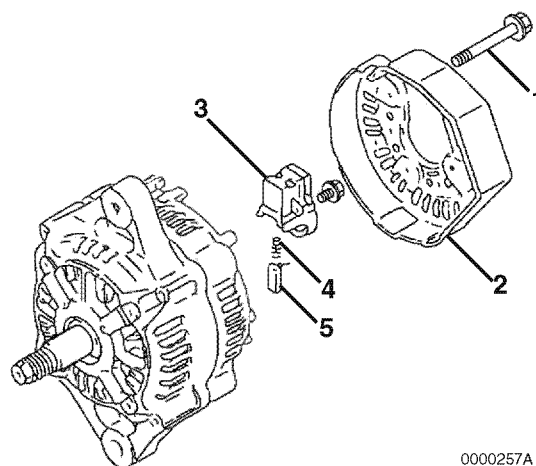

Figure 11-17
8. Reinstall the brush holder (**Figure 11-17, (3)**), springs (**Figure 11-17, (4)**) and brushes (**Figure 11-17, (5)**).
10. Reinstall the rear cover (**Figure 11-17, (2)**) to the rear frame housing with three bolts (**Figure 11-17, (1)**).